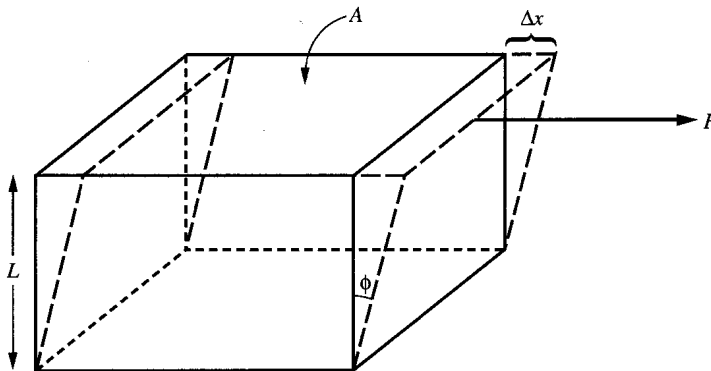

Fig. 11-2
In addition to stretching or compressing, objects can be deformed in other ways, such as by shear deformation. A prototypical shear is shown in Fig. 11-2, where we have a rectangular solid whose base is held in place while parallel forces acting along one edge of the upper surface are applied. We assume the forces are distributed uniformly along the edge, their resultant being the *shear* force  $F$ . The base and top surfaces are each of area  $A$ , and the height of the solid is  $L$ . The deformation produced by  $F$  is a shifting of the top surface relative to the bottom surface by the amount  $\Delta x$  and the corresponding tilting of two of the vertical sides by the angle  $\phi$ . We assume the distortion is very small compared to the original dimensions of the solid. Let us define the **shear stress** as  $F/A$  and the **shear strain** as  $(\Delta x)/L = \tan \phi \approx \phi$  (rad). Then, by reasoning similar to that employed in the case for stretching, one can show that a given shear stress will give rise to a unique shear strain, irrespective of the dimensions of the rectangle. We find that for sufficiently small stresses the deformation is elastic and is governed by Hooke's law in the form
- (a) The case at hand, with equal and opposite forces, is identical to the situation in Fig. 11-2, where the bottom is held fixed. Indeed, in Fig. 11-2 the surface in contact with the bottom supplies the equal